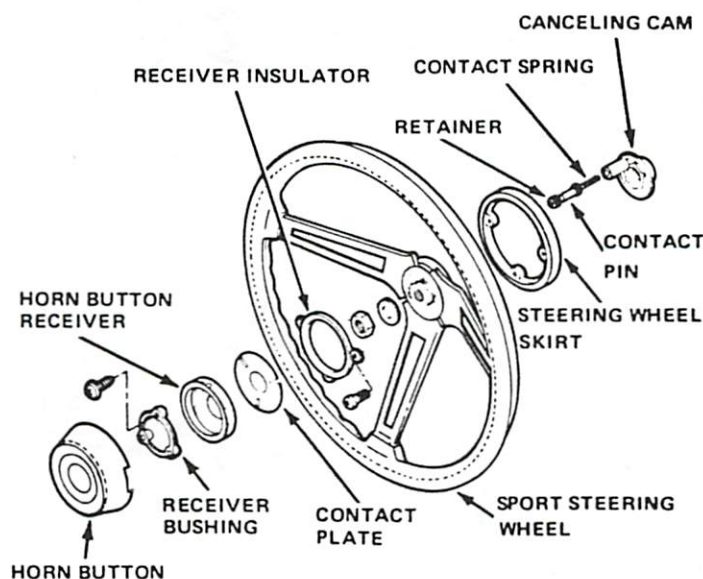

Fig. 2J-3 Sport Steering Wheel Assembly
- (1) Disconnect battery negative cable.
- (2) Place wheels in straight-ahead position.
- (3) Remove horn button. Pull straight up on button to remove.
- (4) Remove steering wheel nut and washer.
- (5) Remove receiver bushing attaching screws and remove bushing, horn button receiver, and contact plate (fig. 2J-3).
- (6) Remove steering wheel using Tool J-21232 (fig. 2J-1).
- (7) Remove receiver insulator attaching screws and remove insulator and skirt (fig. 2J-3).
- (8) Color coat replacement skirt. Refer to Chapter 3B—Metal Repair and Painting for color coat procedure.
- (9) Align and install replacement skirt and receiver insulator on steering wheel and install insulator attaching screws.
- (10) Align reference marks on steering shaft and wheel and install wheel.
- (11) Install contact plate and horn button receiver. Install receiver so horn button locating notch is at 12 o'clock position.
- (12) Install receiver bushing and bushing attaching screws.
- (13) Install steering wheel washer and nut. Tighten nut to 30 foot-pounds (41 N•m) torque.
- (14) Install horn button. Align button tab with receiver notch and press button downward until seated.
- (15) Connect battery negative cable.
- (16) Reset clock, if equipped.